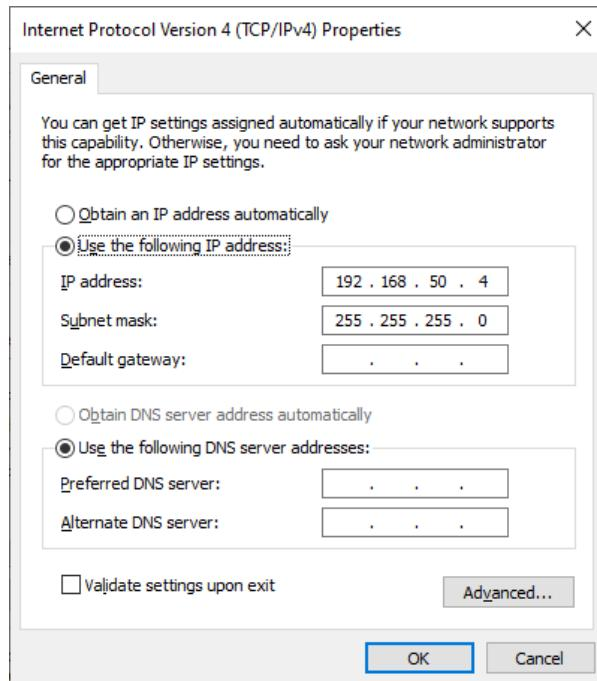

Fig. 10.5: "Internet Protocol Version (TCP/IPv4) Properties" window.
- e. Copy the configuration in Fig. 10.5 on the "Internet Protocol Version (TCP/IPv4) Properties" window and press "OK".